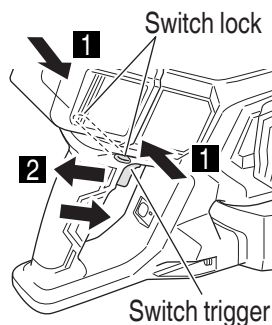

Fig. 14
This product is equipped with a switch lock to prevent inadvertent switch operations. (Fig. 14)
- (3) Press the switch lock in either direction to release the lock, and pull the switch to cut the rebar. (Fig. 14 on page 54)